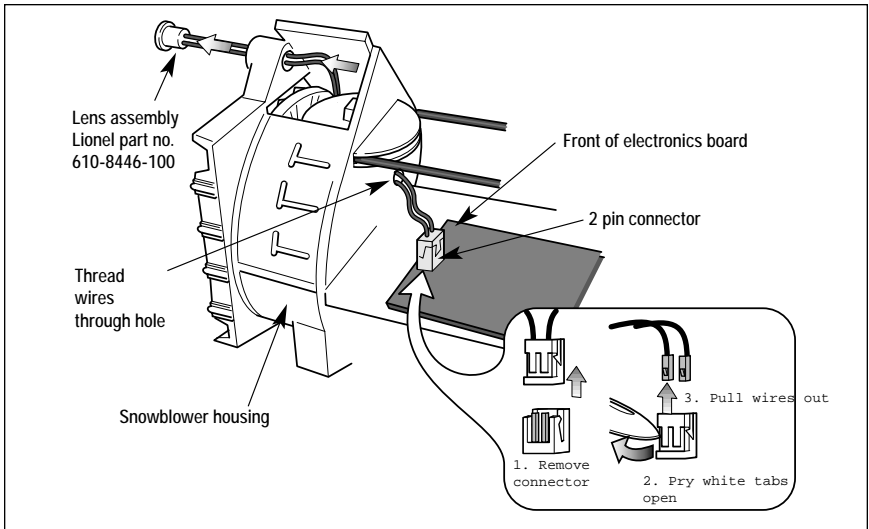

Figure 6. Lamp replacement
**Y**our Rotary Snowplow features an operating headlight. During the course of normal operation, this lamp may require replacement. The lamp is Lionel part no. 610-8446-100, available from your authorized Lionel Dealer. Follow these steps and refer to Figure 6 on page 11 as you replace this lamp.
4. Use a pointed tool to pry open the white tabs and pull out the two wires as illustrated in Figure 6.